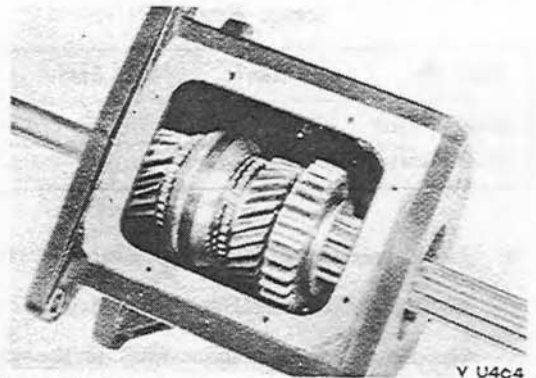

Fig. 3-45. Seating the spline shaft with attached parts in the transmission case.
- Installing the clutch group of parts on the spline shaft, put in place the shaft through the case cover hole. (Fig. 3-45)